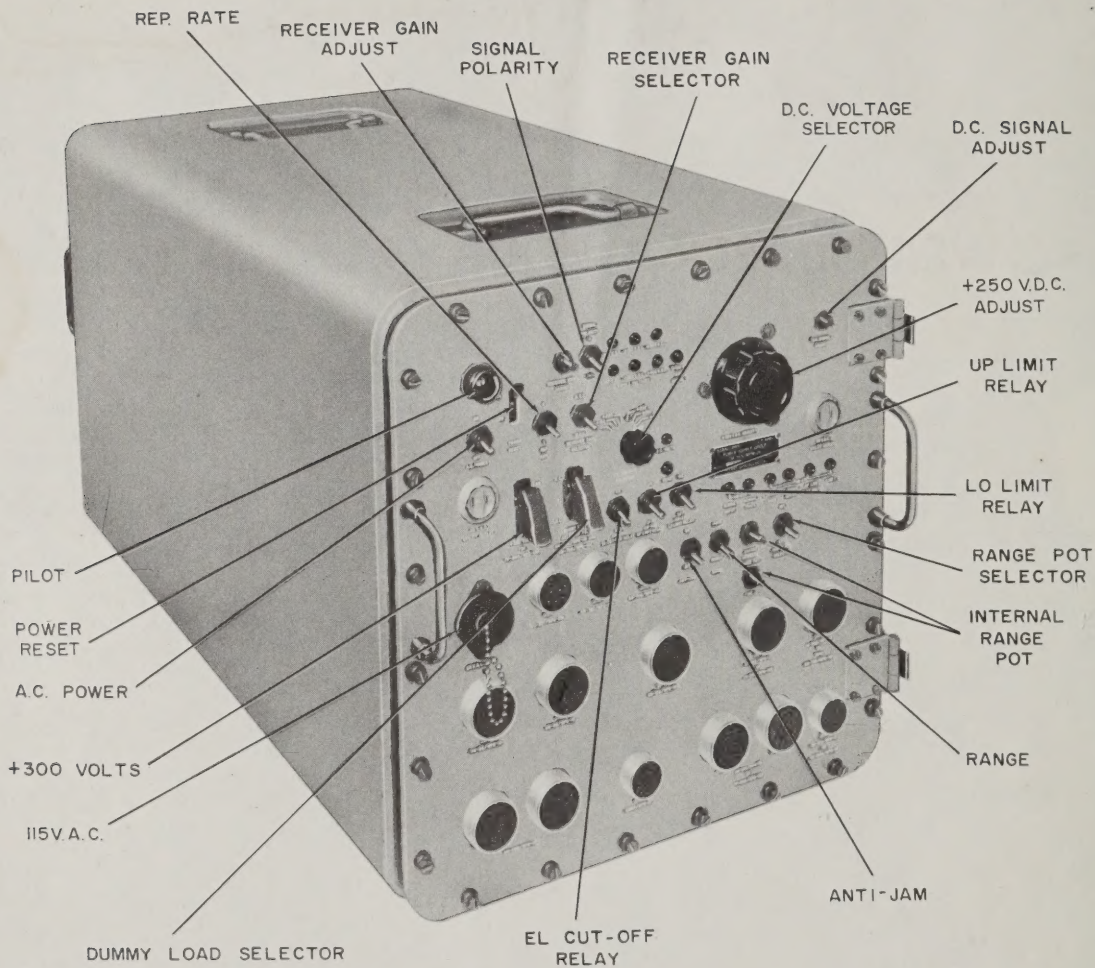
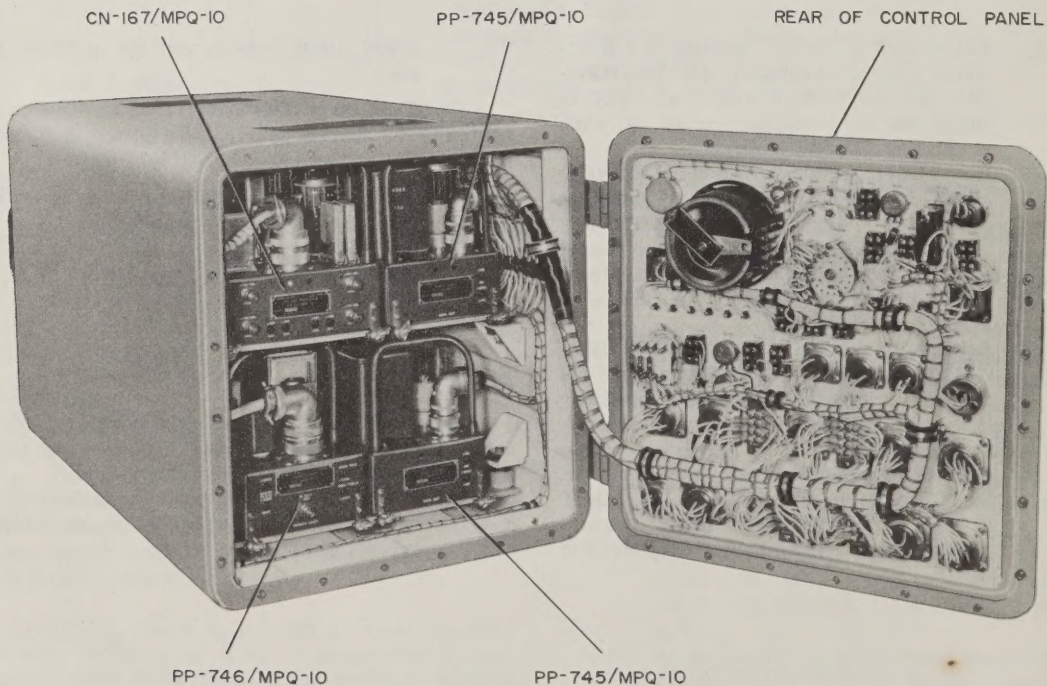
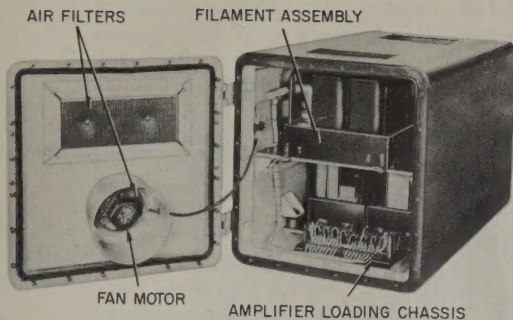

Figure 1. Power Supply Group OA-565/MPM-24.
Figure 4. Power supply group, front cover open.
Figure 5. Power supply group, rear cover open.
a. Power Supply Group OA-565/MPM-24 is issued when it becomes necessary to test or repair certain electrical components of Radar Set AN/MPQ-10 and/or AN/MPQ-10A. It consists of a dustproof metal cabinet (fig. 1) which contains two Positive Power Supplies PP-745/MPQ-10, a Negative Power Supply PP-746/MPQ-10, a Voltage Regulator CN-167/MPQ-10 (par. 6 and fig. 4), a filament assembly chassis, and an amplifier loading chassis (par. 6 and fig. 5). All operating jacks, receptacles, and controls are located on the front panel. The operation of the three power supplies and the voltage regulator is covered in the Instruction Book for Radar Set AN/MPQ-10 Field Maintenance
a. The following table lists the controls of the control panel (fig. 1) and indicates the function of each:
b. Two positive power supplies (PP-745/MPQ-10, figs. 4 and 10) are utilized. One furnishes the +400 volts to the voltage regulator unit. The second power supply acts in place of motor generator MG401 of the radar set. It is regulated by the +250 V.D.C. ADJUST (fig. 1), variac T101, which adjusts the ac voltage on the primary of high voltage transformer T3101.
c. The negative power supply (PP-746/MPQ-10, figs. 4 and 11) operates in a conventional manner and its output (-300 volts) is obtained at the various receptacles on the control panel.
d. The voltage regulator (CN-167/MPQ-10, figs. 4 and 12) receives +400 volts unregulated from one positive power supply and furnishes +300 volts regulated. Manual control of the ac input voltage to the plate transformer of the second positive power supply provides +250 volts unregulated dc to substitute for the 250-volt generator of the radar set. The +250 V.D.C. ADJUST knob must be regulated each time a chassis is tested because of variation in the loading of this positive power supply. The voltage regulator also supplies +200 and +150 volts regulated from the +250 volt input.
e. The filament assembly (figs. 5, 6, and 9) consists of four 6.3 volt filament transformers mounted on a separate chassis. The primaries are wired in parallel and the secondaries are connected individually to J201. These transformers supply all the filament current needed during the operation of the power supply group.
f. The amplifier loading chassis (figs. 5, 7, and 9) is composed of 14 resistors which approximate the loadings of the five servo motors and the two servo generators. These resistors, operating in pairs, substitute for the field windings of the respective servo motors and generators.